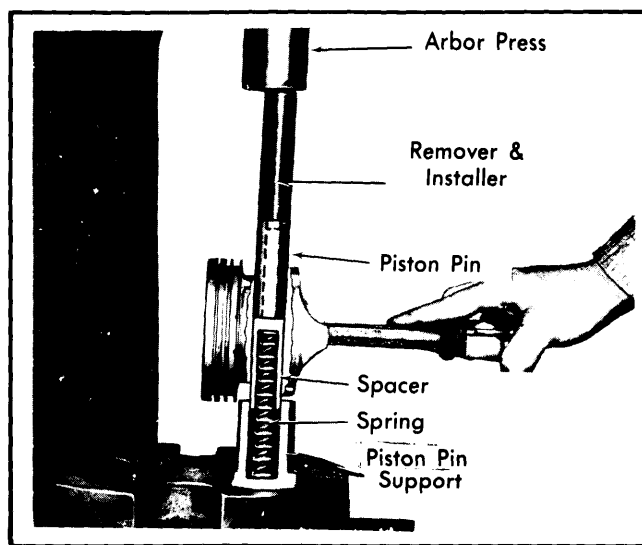

Fig. 4 Piston Pin Installation
**Installation** — Lubricate piston pin and pin holes in piston with engine oil. Position connecting rod in its respective piston so when assembly is installed in engine, side of piston stamped with "R" is toward rear of engine and number on lower end of rod is down. Press pin until it bottoms on spacer in support (see Fig. 4).